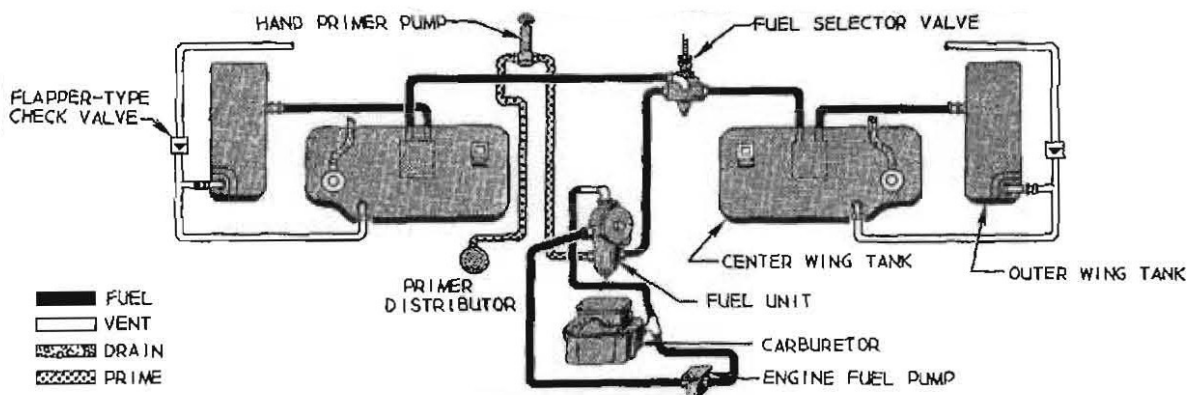

Figure 5 – Typical Fuel System Diagram (Reference)
- A. The reference diagram shown in Figure 5 depicts the fuel system typical for this aircraft.